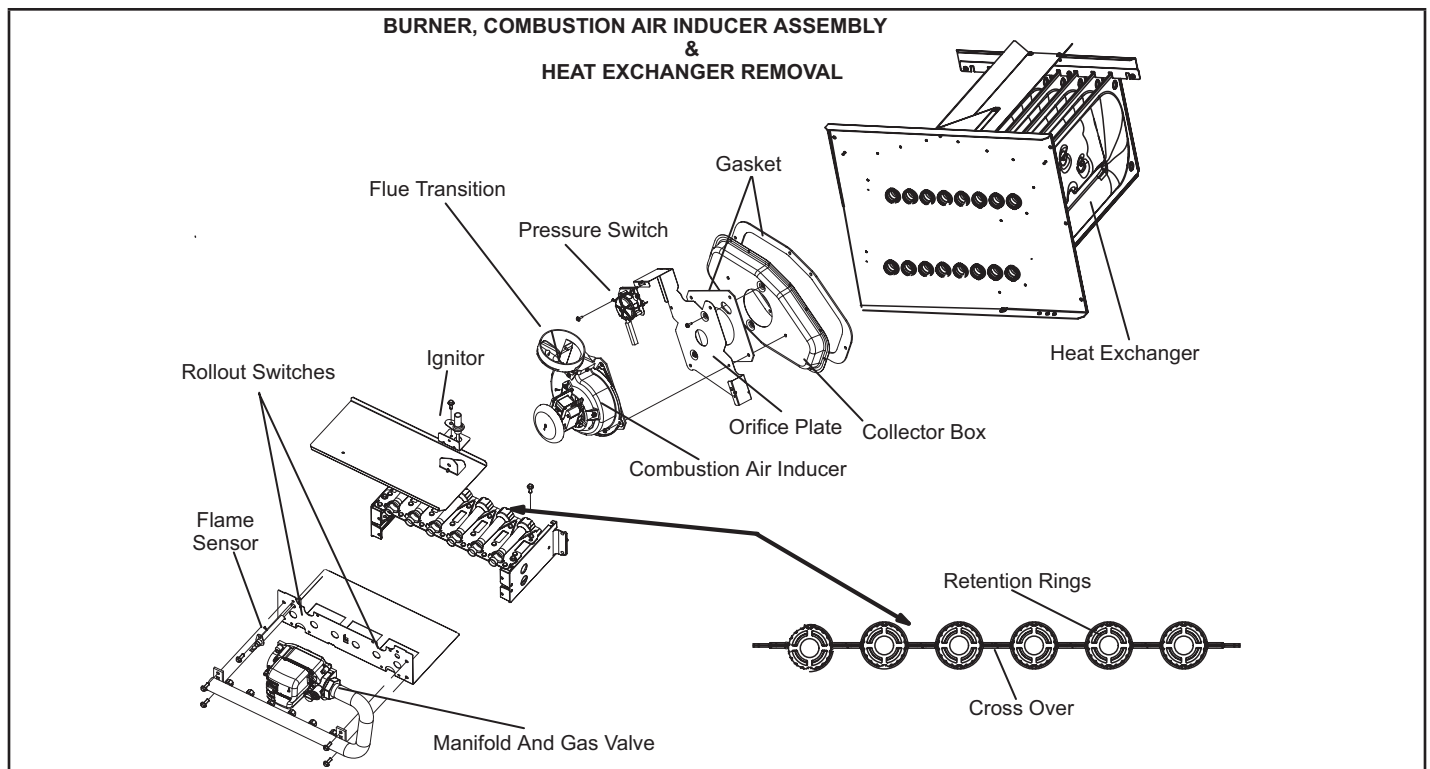

FIGURE 33
- 10 -To clean burners, run a vacuum cleaner with a soft brush attachment over the face of burners. Visually inspect inside the burners and crossovers for any blockage caused by foreign matter. Remove any blockage. FIGURE 33 shows burner detail.